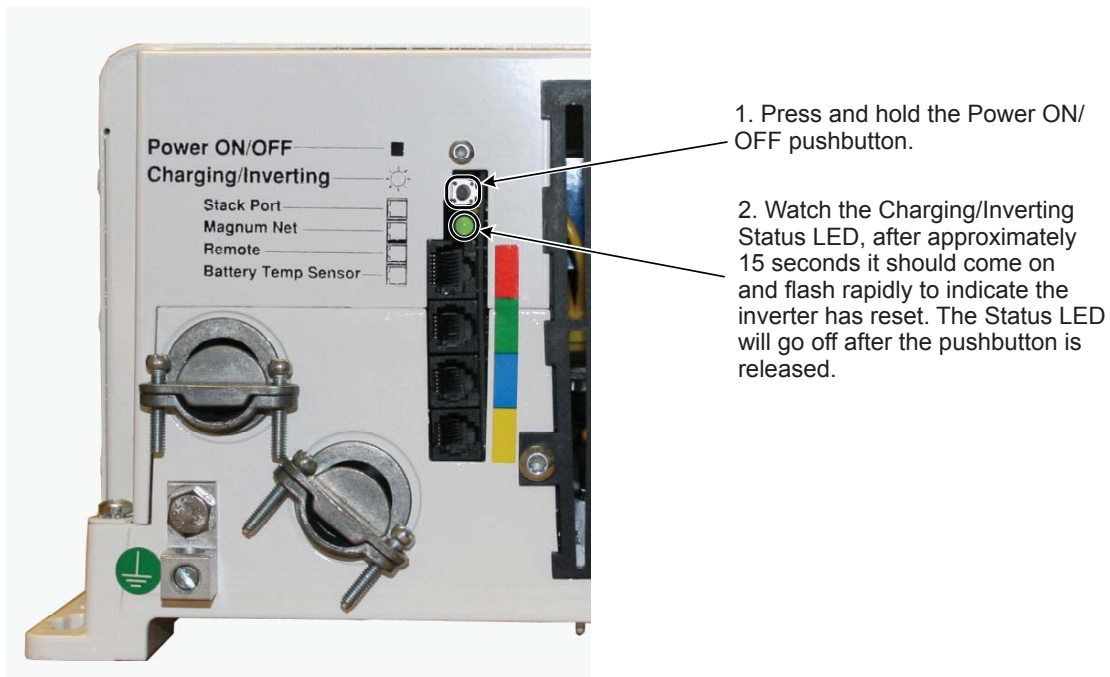

Figure 4-1, Performing an Inverter Reset
Press and hold the Power ON/OFF pushbutton (see figure 4-1) for approximately fifteen (15) seconds until the Charging/Inverting Status LED comes on and flashes rapidly; once the rapid flashing has begun, release the Power ON/OFF pushbutton. The Status LED will go off after the pushbutton is released.